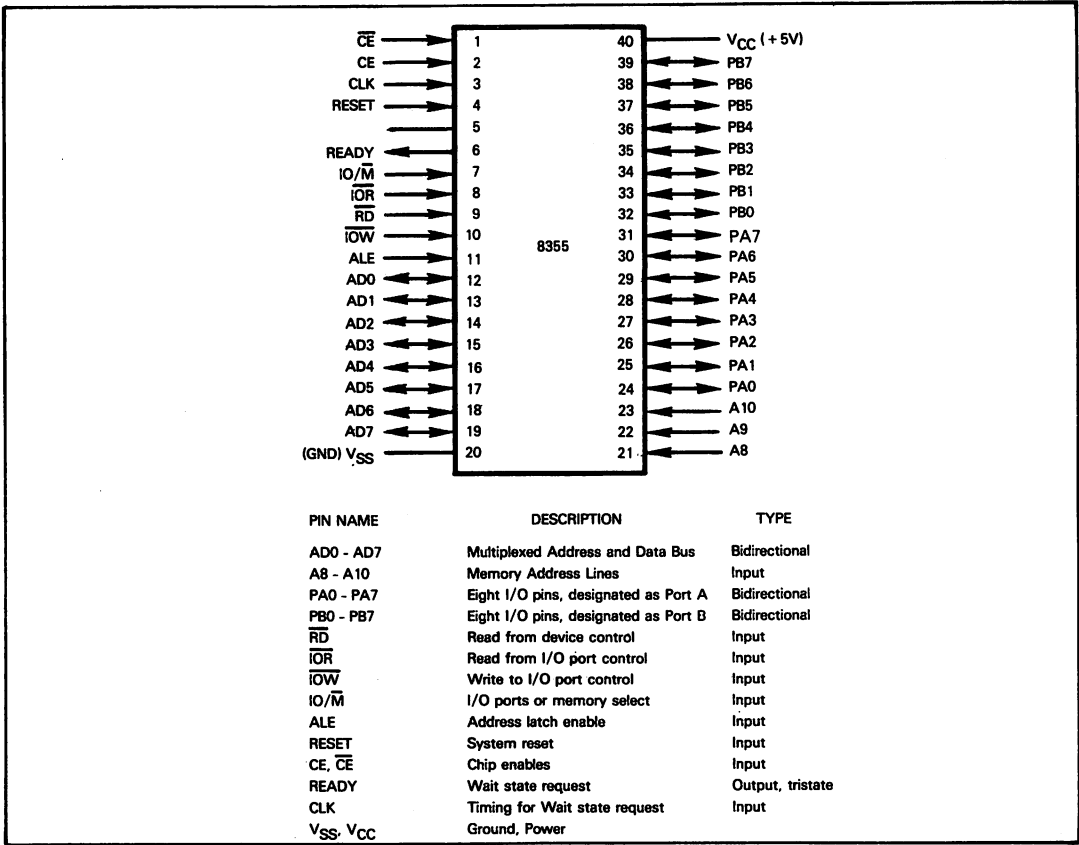

Figure 5-25. 8355 Multifunction Device Signals and Pin Assignments
**8355 pins and signals are illustrated in Figure 5-25.**